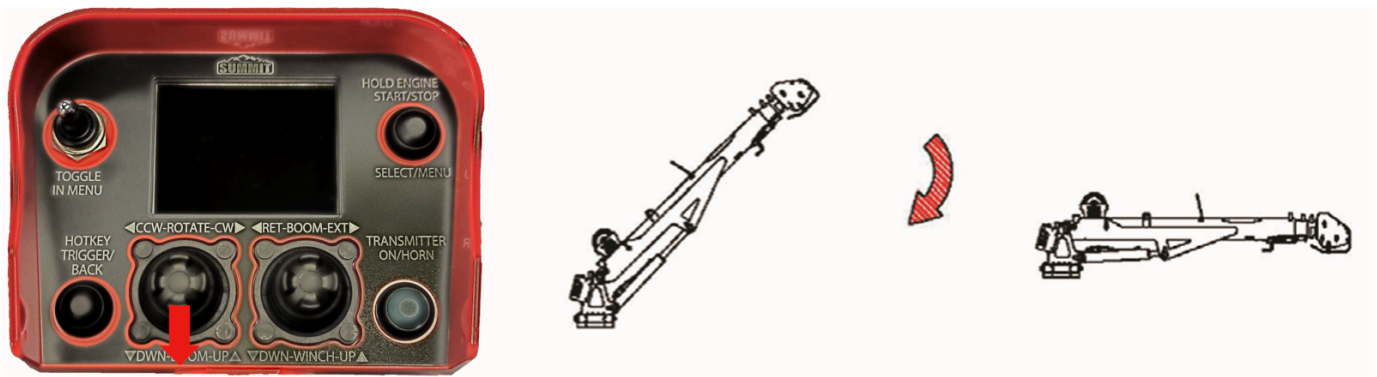

Figure 2-49.
2. Press down on the left joystick to lower the boom (see Figure 2-49).